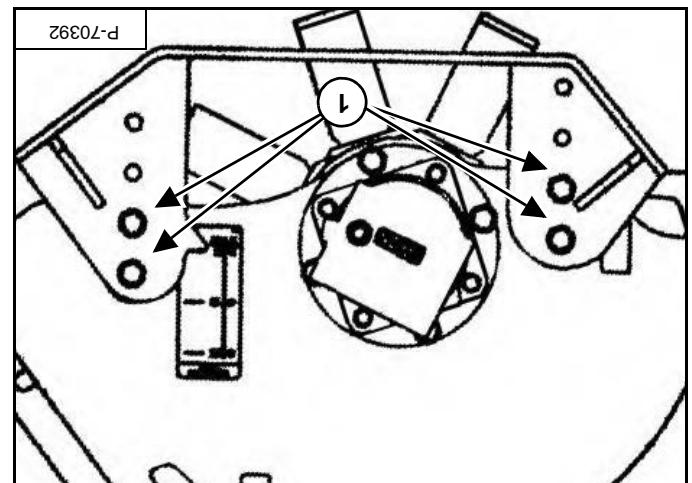

Figure 3
Remove the four bolts and nuts (item 1) [Figure 3]. Move the skid shoe to the desired digging depth. Install bolts and nuts and tighten to 88 - 95 N·m (65 - 70 ft-lb) torque.
Tiller is shown set at the 5 cm (2 in) digging depth position [Figure 3].